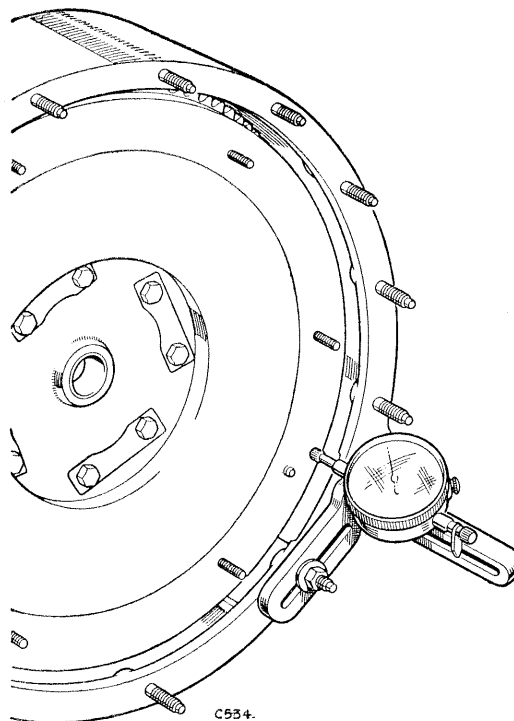

Fig. B-1—Checking run-out on flywheel face
2. Check the run-out on flywheel face as illustrated by Fig. B-1. The run-out on flywheel face must not exceed .002 in. (0,05 mm).